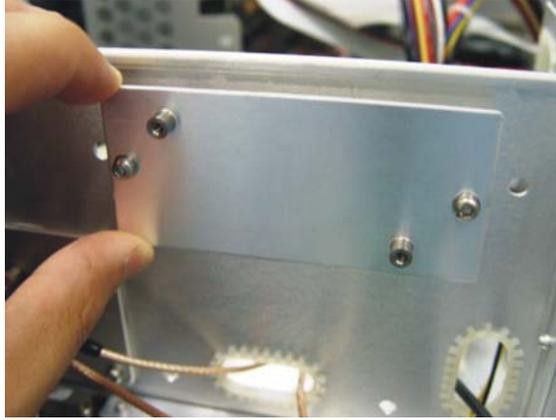

Figure 6-6. Touch Screen Controller Bracket
- 22 Using the supplied screws, attach the new Touch Screen Controller bracket to the chassis as shown in Figure 6-6 on page 6-8. Use a T10 Torx with a 5 inch-pounds torque wrench.